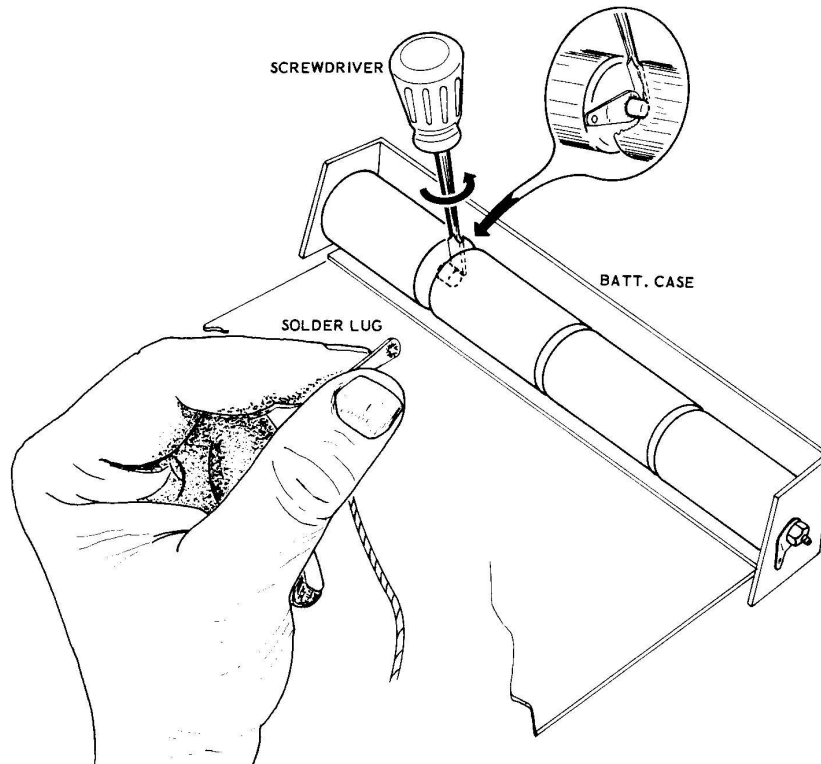

Figure 3M
- ( ) Connect the free end of this 5-1/2" wire to lug 6 of terminal strip A (S). Insert the #6 solder lug down between battery #3 and battery #4 in the manner indicated in Figure 3M. Be sure the solder lug is not touching any metal parts of the chassis.